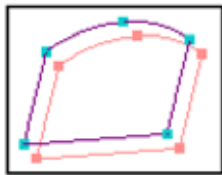

Figure 54: Curves created by translation
8. Rotate the model to see the created curves as shown in Figure 54.